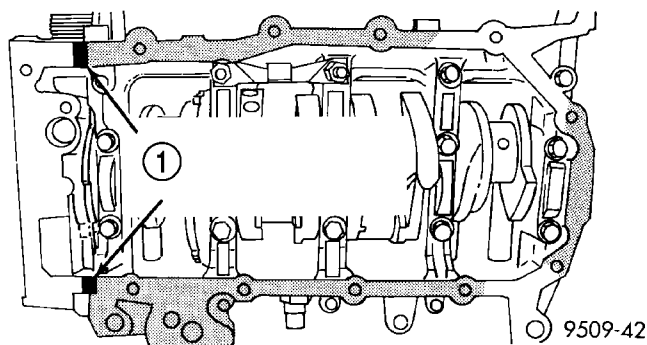

Fig. 112 Oil Pan Sealing
- (1) Clean oil pan and all sealing surfaces.
- (2) Apply Mopar® Silicone Rubber Adhesive Sealant at the oil pump to engine block parting line (Fig. 112).